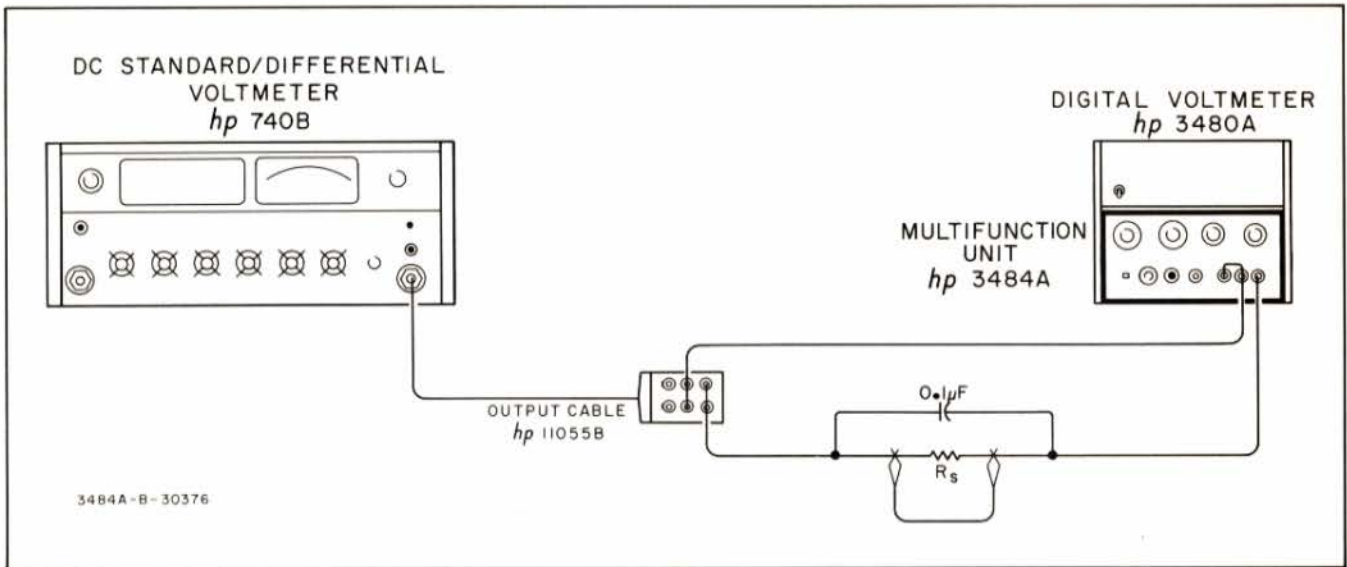

Figure 5-2. Input Resistance Check.
- a. Connect dc standard to 3484A input as shown in Figure 5-2, using a $10 M\Omega \pm 1\%$ resistor for R_s . The capacitor in parallel with R_s reduces the effect of noise. Connect jumper across R_s . Set 3484A RANGE to 10 V, FUNCTION to VDC.
- a. Connect dc standard to 3484A input as shown in Figure 5-2, using a 1 M Ω \pm 1% resistor for R_s . Connect jumper across R_s . Set 3484A RANGE to 100 V, FUNCTION to VDC.